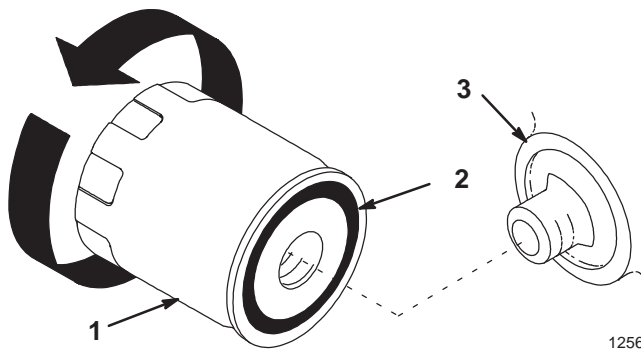

Figure 17
2. Remove the old filter and wipe the filter adapter (Fig. 17) gasket surface.
3. Apply a thin coat of clean oil to the rubber gasket on the replacement filter (Fig. 17).
4. Install the replacement oil filter to the filter adapter. Turn the oil filter clockwise until the rubber gasket contacts the filter adapter, then tighten the filter an additional 1/2 turn (Fig. 17).